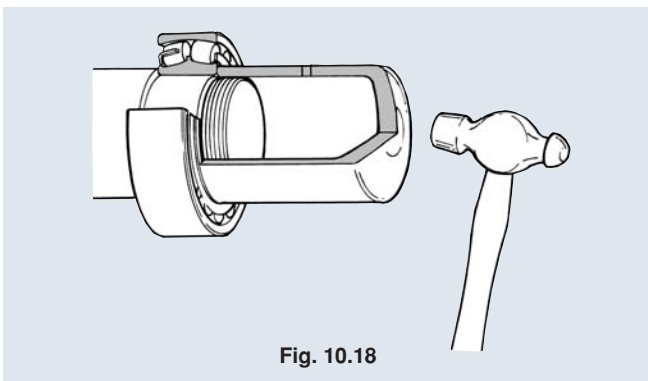

Fig. 10.18
(1) Press-fitting
- It is recommended that a small bearing of smaller tightening allowance be press-fitted by forcing a press-fitting jig onto the end face of inner ring. (See **Fig. 10.18**.)